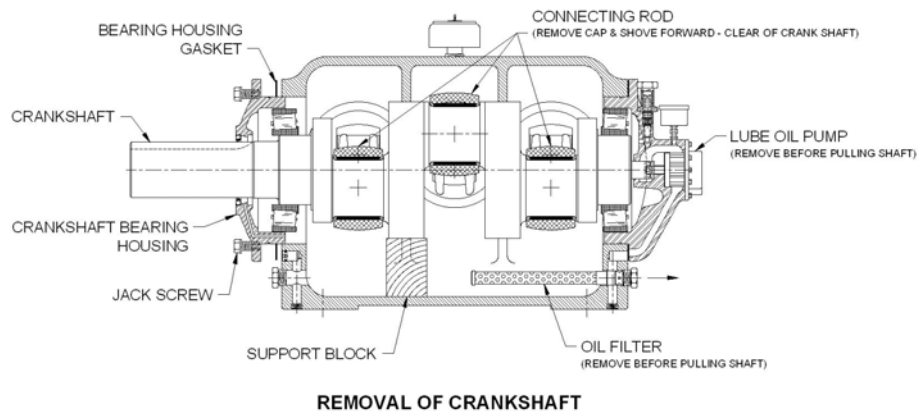

Figure 2
5. Remove the eight (8) 5/16 capscrews holding the lube pump in the off drive side bearing housing and carefully remove the pump from the bearing housing.
6. Place a large wooden block in the power end under the crankshaft. This will support the crankshaft once the bearing housings are removed. See Figure 2.
8. Thread bearing retainer capscrews into the two (2) tapped holes of each bearing retainer and use them to push the bearing retainers out of their bores.
The 543Q-7 crankshaft is removed similarly to the 184T-7 and 308T-7. The primary difference is the set of center main bearings on the 543Q-7. Refer to Figure 2 for general nomenclature and use the following instructions.